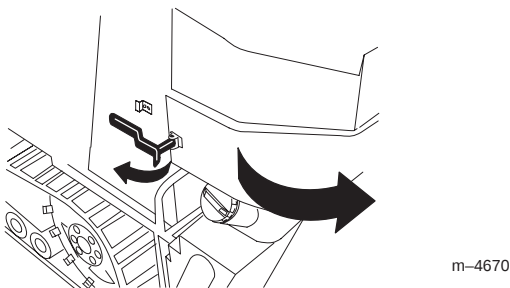

Figure 21
1. Pull out and forward on the latch to remove it from the locking bracket on the traction unit frame (Fig. 21).
2. Swing the rear access cover to the right (Fig. 21).
2. Place the latch over the locking bracket (Fig. 21).
3. Pull the latch rearward and push it in to lock it in place (Fig. 21).